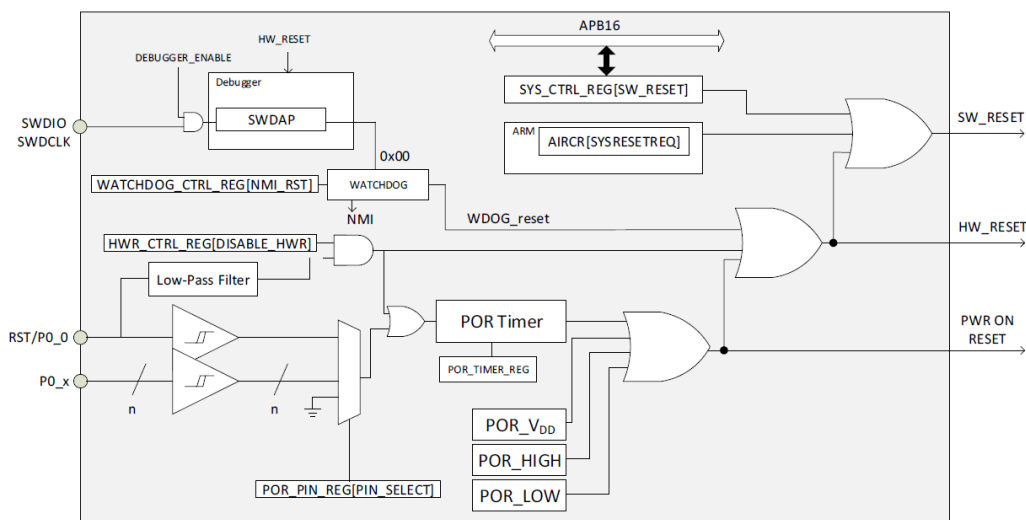

Figure 43: Reset Block Diagram
- RST pad is multiplexed with P0\_0 pin (Figure 43)